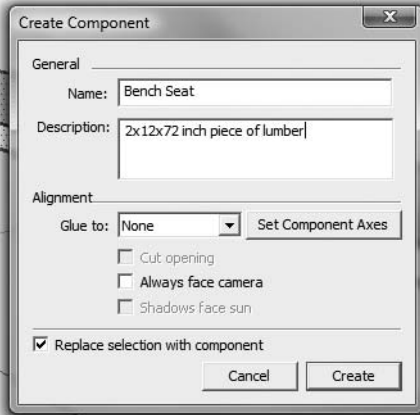

Figure 1-18:
3. In the Name box, type *Bench Seat*, as shown in Figure 1-18.